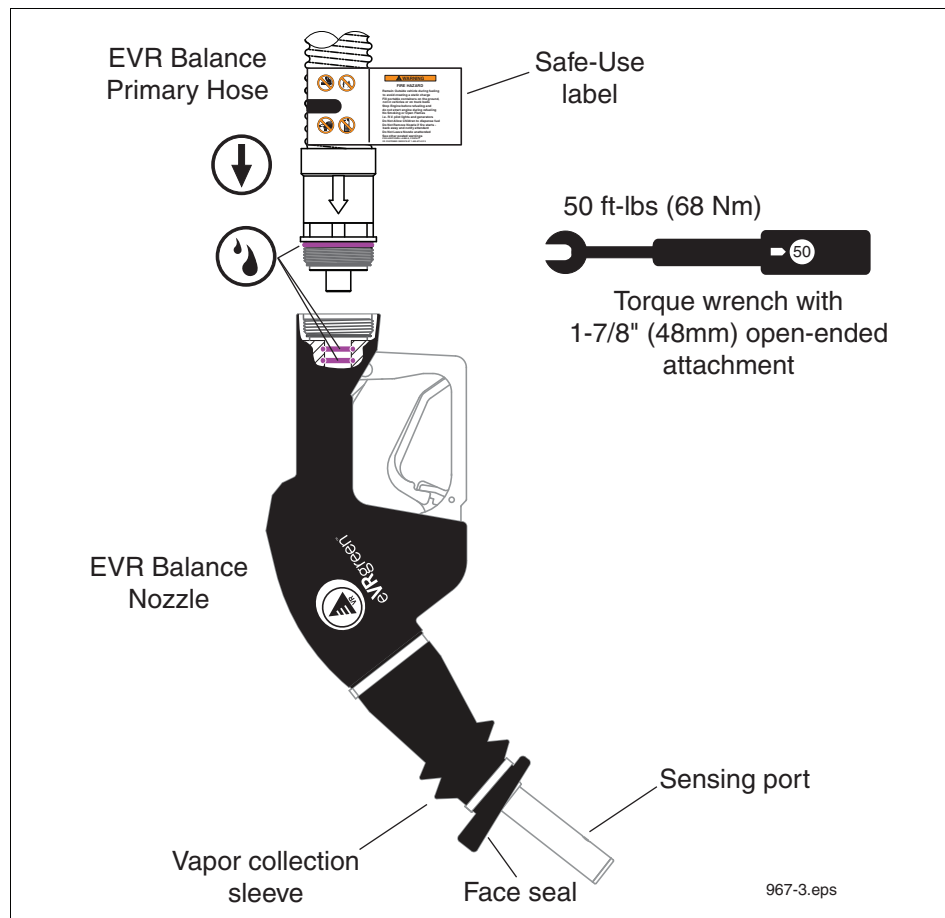

Figure 3. Connecting EVR Balance Nozzle to Primary Hose Assembly
2. Inspect and lubricate the one o-ring on the Primary Hose fitting and the two o-rings inside the nozzle inlet using mineral oil or other suitable lubricant (Figure 3). If O-rings are damaged or missing, use a Veeder Root O-ring Kit (P/N 900322-001).
3. Insert the hose fitting into the nozzle body, and tighten the hose to 50 foot-pounds (68Nm) - Refer to UL567. (See Figure 3)
3. Start flow with the nozzle lever's hold-open clip engaged in the low position until the gasoline covers the sensing port of the nozzle (reference Figure 3).
- Inspect the rubber vapor collection sleeve and face seal for cuts, tears and excessive wear (see Figure 3 on page 6). Replace if necessary.
- Inspect the safe-use label on the Primary Hose (Figure 3 on page 6). Replace the label if it is excessively worn or damaged or cannot be easily read.